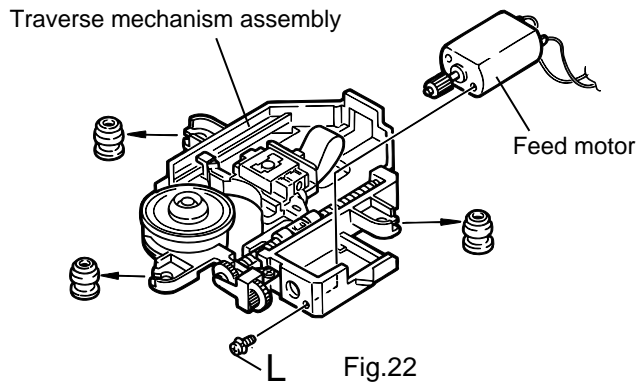

Fig.22
■ **Removing the feed motor (See Fig.22)**